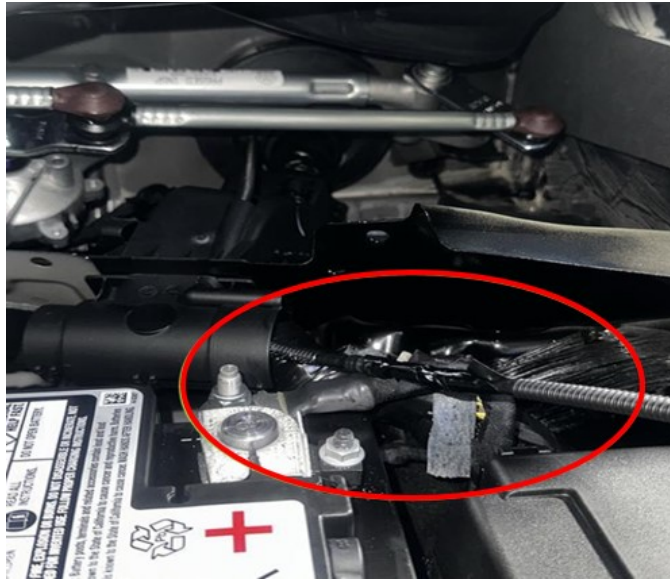

Fig. 7
13. Using the cut hose as a guide, secure the new hose with tape to pass the hose through the grommet and the instrument panel to the A-Pillar Fig. 7.